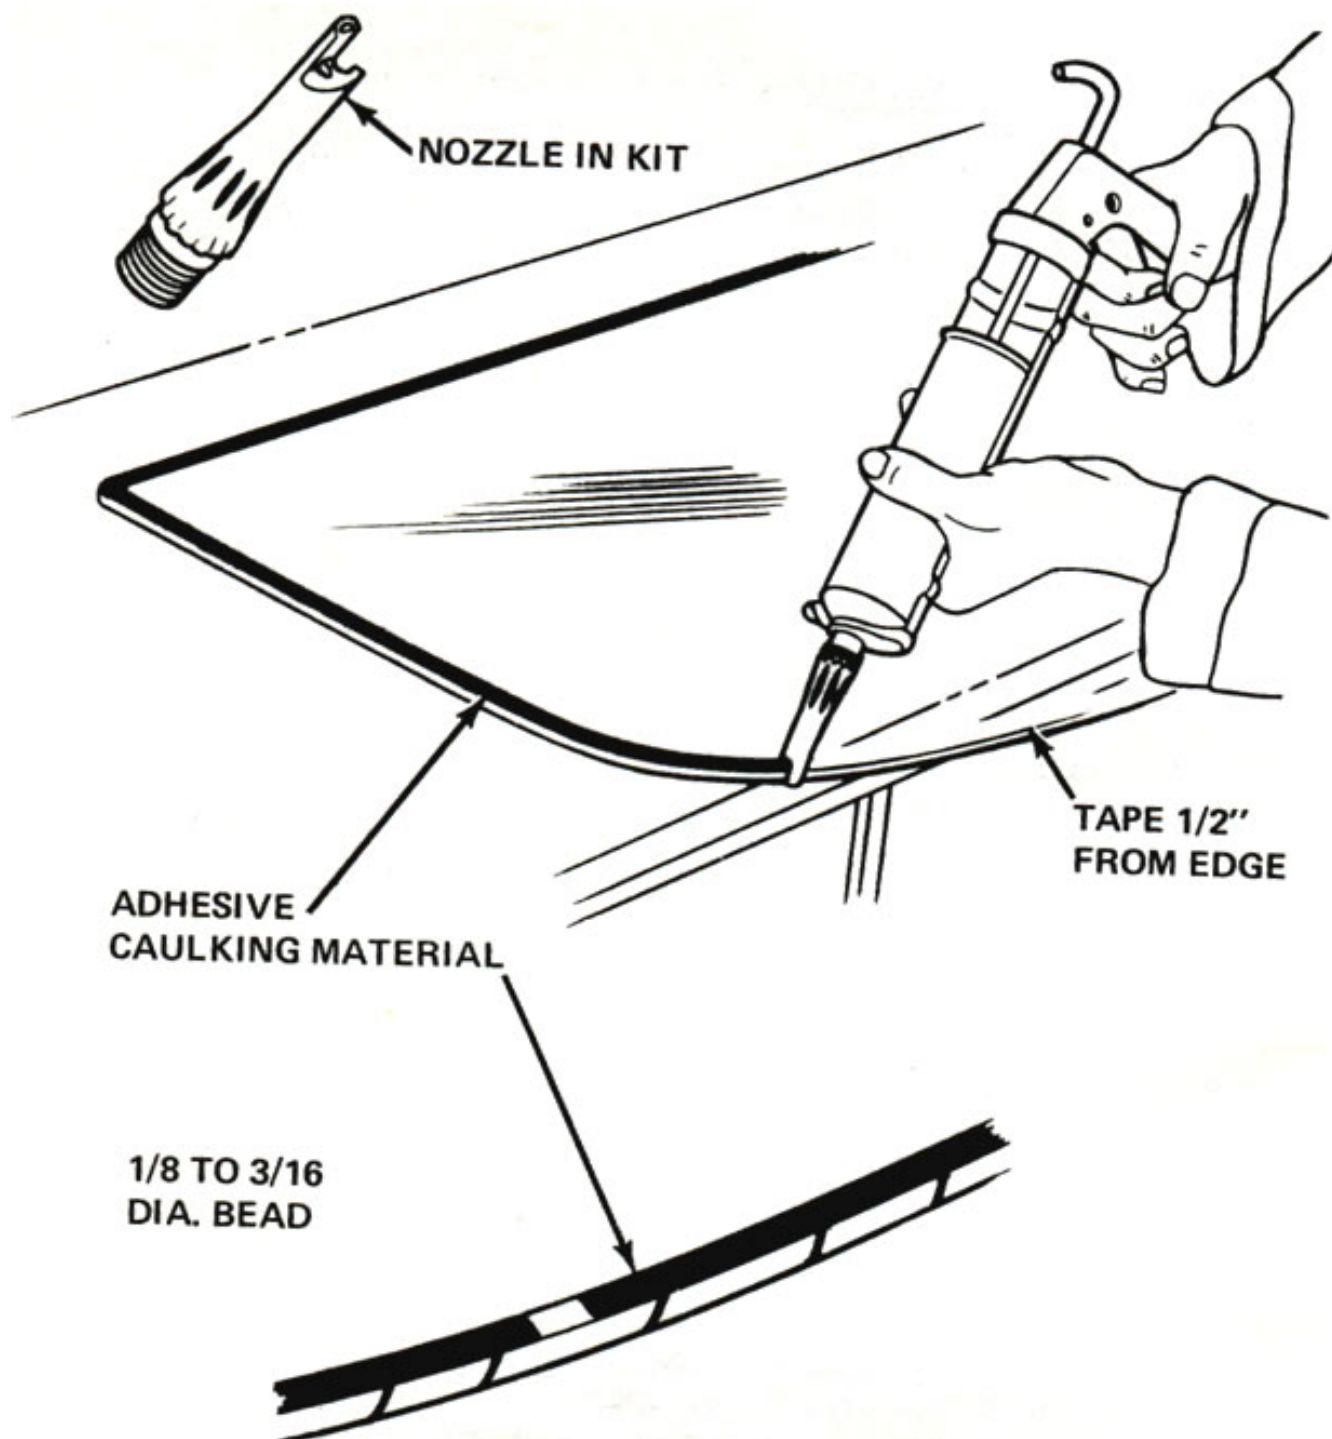

Figure 1
1. Apply a strip of masking tap around outer surface of glass 1/2 inch inboard of outer edge (figure 1). Removal of tape after glass installation will aid in cleanup and give a smooth, even edge of adhesive material.
10. Apply smooth continuous bead of adhesive material around entire outside perimeter of glass. Material should be 1/8" to 3/16" in diameter (refer to figure 1).